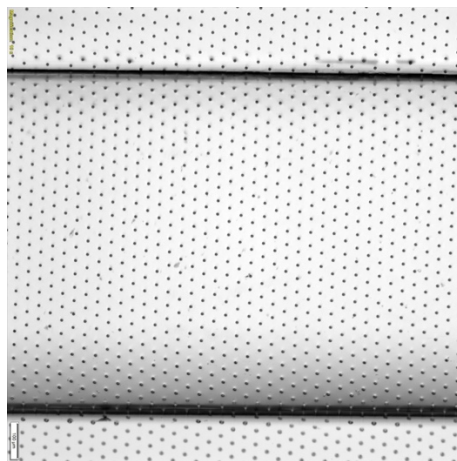

Figure 1: Membrane pores visualized at 10x magnification; Chip-S1™ channel sidewalls are clearly visible.
6. Using the brightfield setting and starting with the 10x objective, locate the focal plane of the membrane pores, which are distinguished by their hexagonally-packed arrangement (see Fig. 1). Once the correct focal plane has been found, move the stage until the channel region of the chip is located.